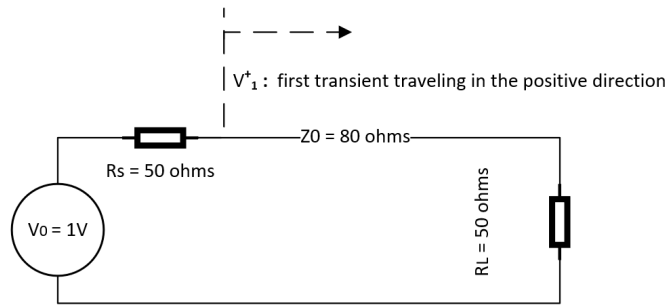

Figure 1: Circuit for pre-lab question 1
1. For the circuit in Figure 1, calculate source reflection coefficient (Γ_S), load reflection coefficient (Γ_L) and first incident wave (V_1^+). You may refer back to your ECE329 notes for help.